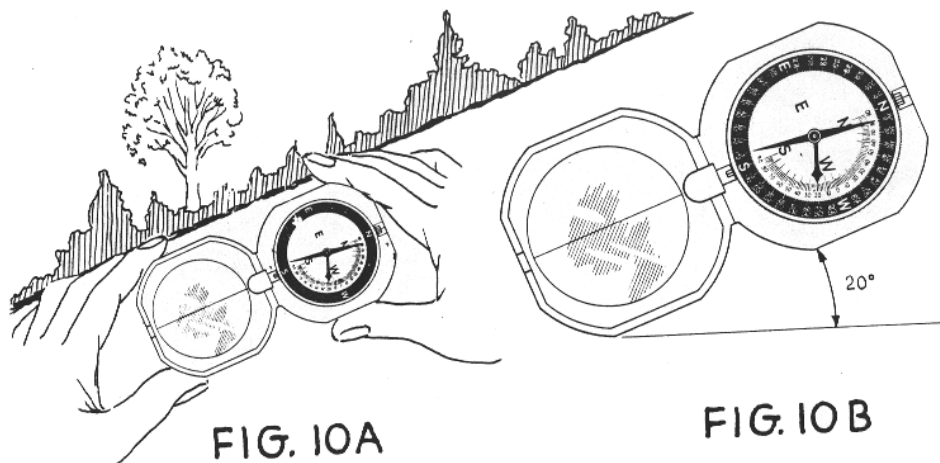

FIG. 10A
d. The angle of inclination is indicated by observing the point of the clinometer needle, opposite the graduation on the clinometer scale. (See Figure 10A and 10B.)